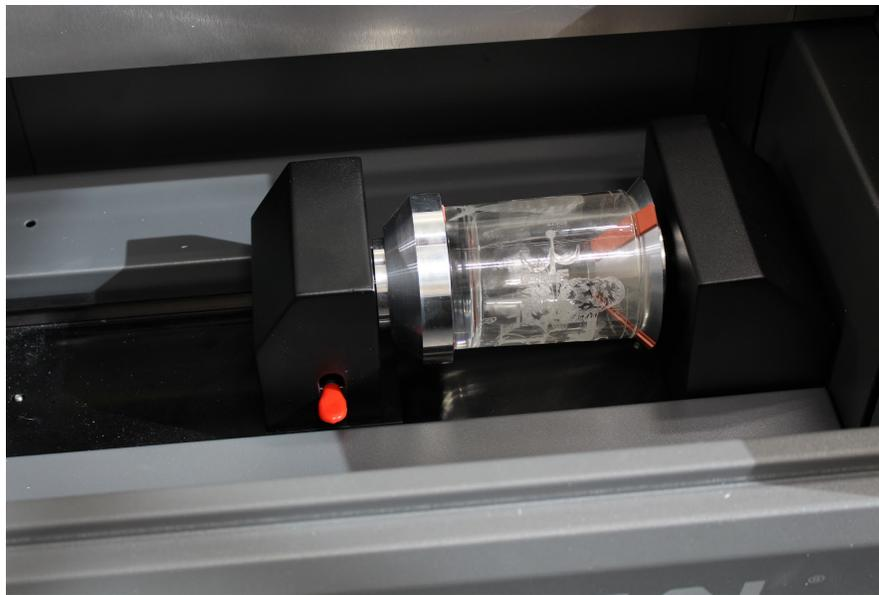

Figure 18 - Cylindrical Object Loaded
6. To load cylindrical stock lift up on the red button on the Rotary Engraving Fixture and slide the tailstock up against your material (Figure 18). Your object should be snug enough to not fall out of the fixture during the engraving operation.